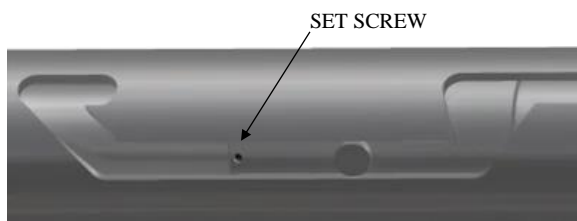

Fig. 6
L-2.19) Rotate J-body (20) as needed to position J-pin of J-pin bottom sub (23) along J-slot to access threaded holes (Fig. 6). Screw set screws (28) into J-pin bottom sub (23).